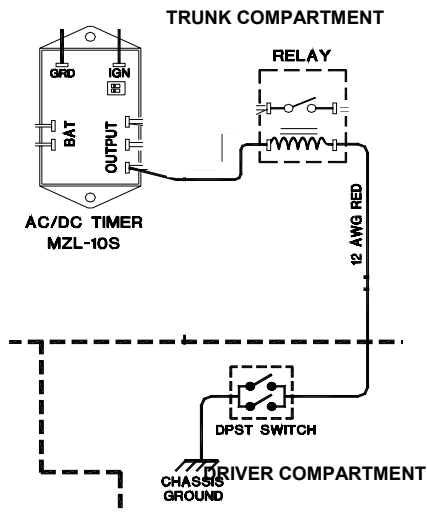

Figure 9
- Step 2** Route and wire a red wire (#12 AWG) from of the switch to the Automotive Power Relay (see Fig. 9).